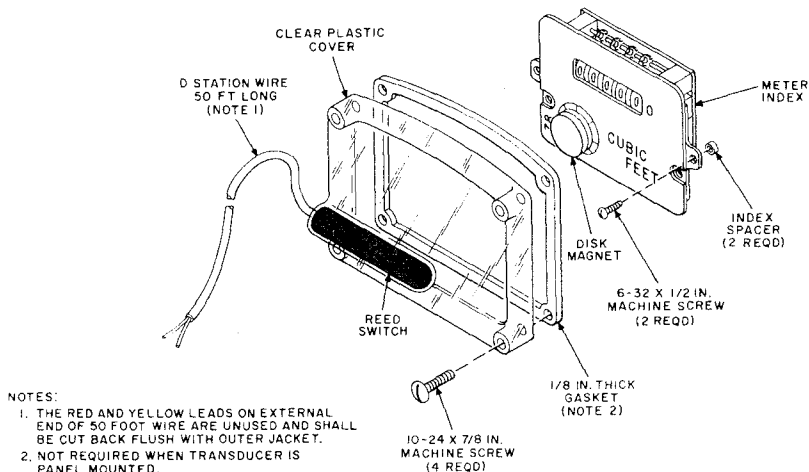

Fig. 1—B Airflow Transducer (Exploded View)
2.02 The B airflow transducer kit (Fig. 1) replaces the index and plastic cover presently used on the air meter. The transducer kit contains the following:
meter housing (Fig. 1). This gasket is used to obtain the required distance between the disc magnet and dry reed switch, necessary for proper operation.